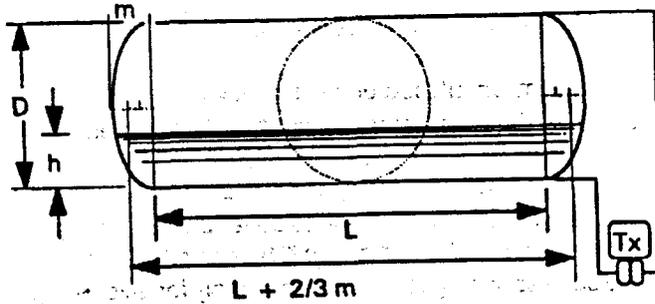

Fig. 5c
- c) Cylindrical vessel with elliptical or pseudoelliptical ends (see Fig. 5c). Transmitter measuring the whole vessel height.
$$V = \text{Out} \cdot (d/1.12838)^2 \cdot (L + 2/3 m) \quad \text{where } m \text{ is the length of the minor ellipse axis (see Fig.5c)}$$